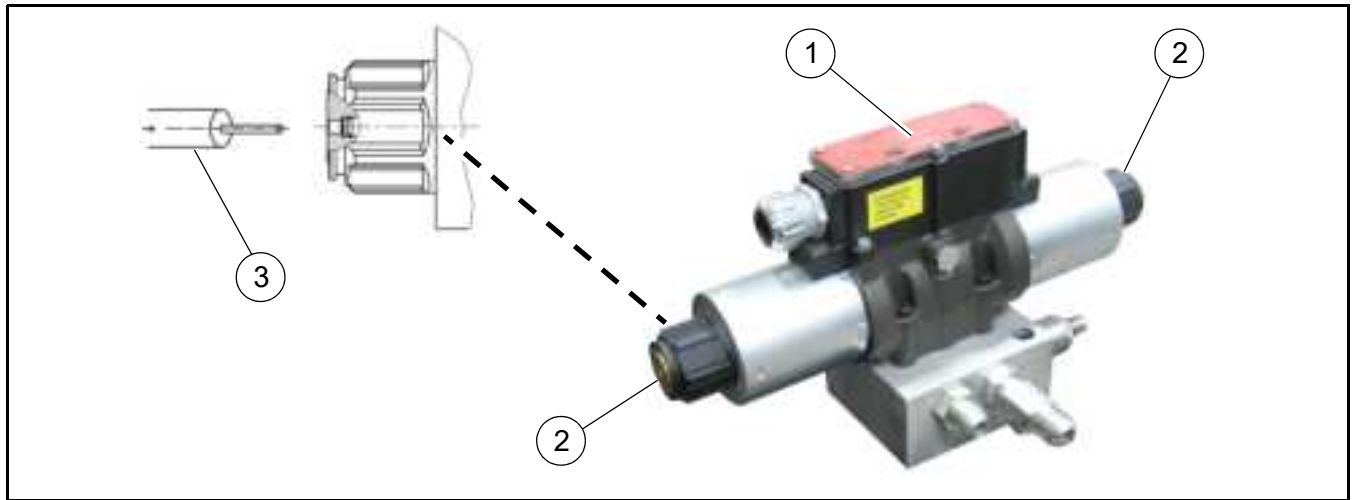

Figure 4
- Stored or residual hydraulic pressure must be relieved after blocking devices are installed. Locate the direct acting directional control valve (**Figure 4, 1**) on the Power Pack.
- Both solenoids (**Figure 4, 2**) on the directional valve have a manual override.
- Insert an 1/8" or less diameter pin or screw driver (**Figure 4, 3**) into the end of both solenoid spools to relieve hydraulic pressure from both hydraulic lines for the ram cylinder.